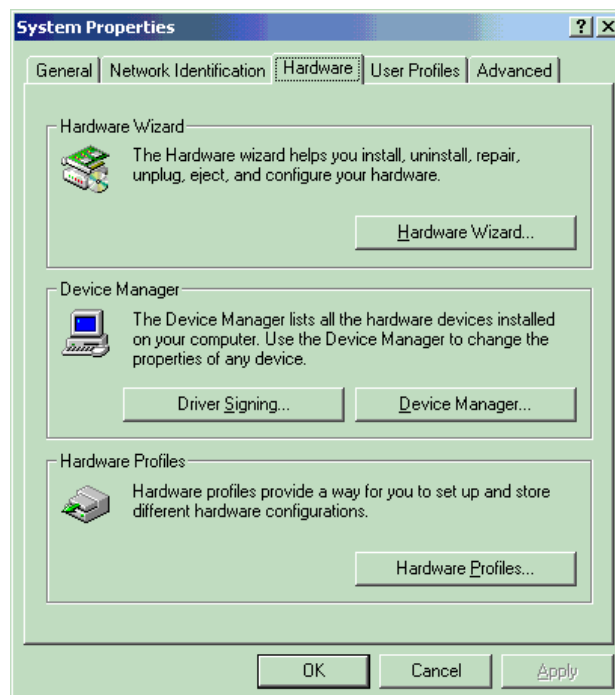

Figure 76. System Properties Window
1. Right-click the My Computer icon on your desktop, and select **Properties**. The System Properties window opens (Figure 76).